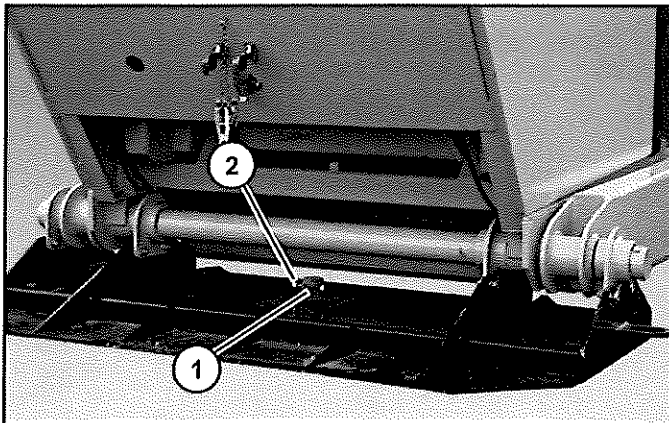

Figure 14
6. Lower the conveyor over the pin (Item 1) and secure the conveyor to the pad with the supplied keeper and bolt (Item 2). To ensure conveyor and operator safety, the conveyor must be operated with the supplied ground pin attached to the concrete pad (**Figure 14**).